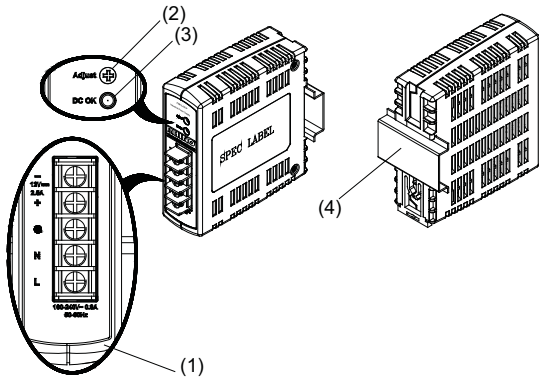
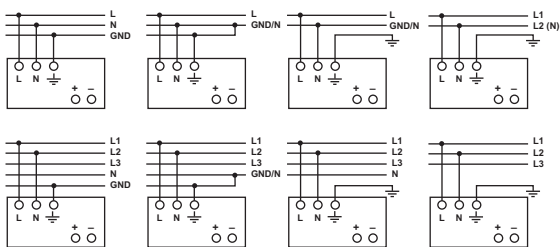

Figure 1
Figure 5
2. Device description (Fig. 1)
5.1. Input connection (Fig. 1, Fig. 5)
Use L, N and GND connections of input terminal connector (see Fig. 1 (1)) to establish the 100-240 VAC connection.
5.2. Output connection (Fig. 1 (2))
The green LED DC OK displays correct function of the output (Fig. 1 (3)).